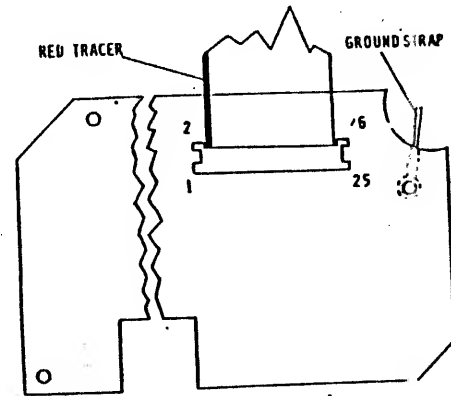

Figure 3-28
4. Remove 10 MB disc drive cover by removing (3) screws securing cover to casting.
5. Disconnect flat ribbon connector from stepper PWA. (figure 3-28).
6. Remove (3) screws securing stepper PWA to casting.
7. Remove stepper PWA. (See Figure 3-28).
2. Replace ground strap and (3) screw securing stepper PWA to casting. (Fig. 3-28)
4. Replace disc cover and the (3) screws.